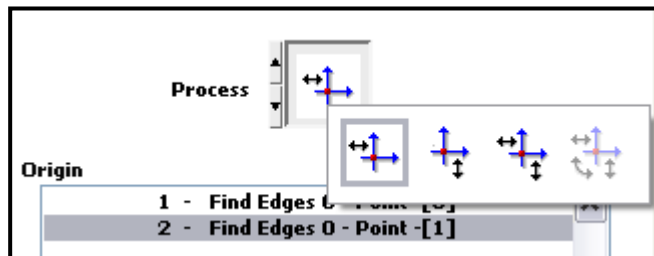

Figure 39. Select the mode (process).
3. Choose whether to set only the vertical or the horizontal position, to set both, or to set the angle in addition to the position [Figure 39].